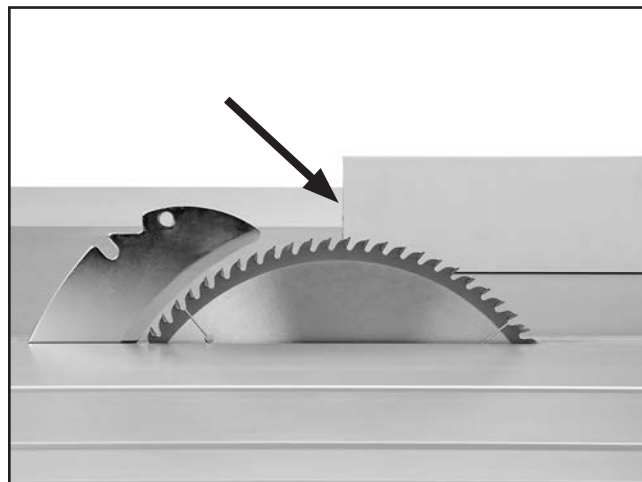

Figure 87. Rip fence even with center of blade (guard removed from spreader for clarity).
4. Slide the leading end of the rip fence so it is even with the center of the main saw blade as shown in **Figure 87**. **Note:** This technique allows the finished cut-off piece to “fall” away from the blade when the cutting operation is complete; reducing the possibility of kick-back.